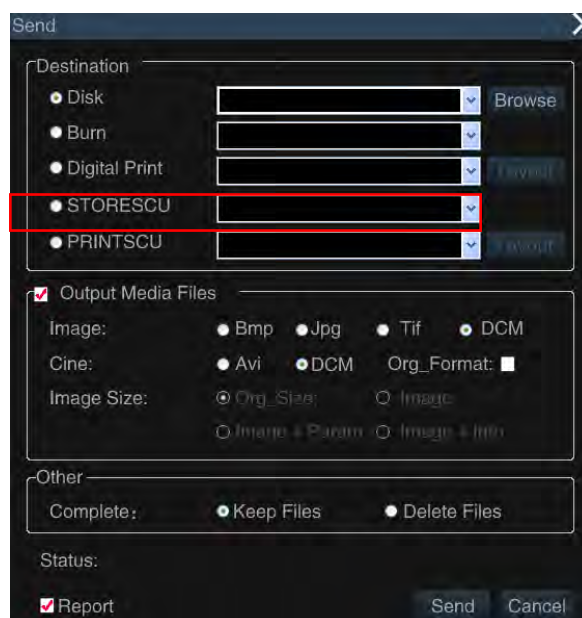

Figure 229: Archive Management - Send screen
2. Select the patient record to be sent from the patient list, click on **Send** at the bottom of the screen to open the **Send** screen, as shown in Figure 229.